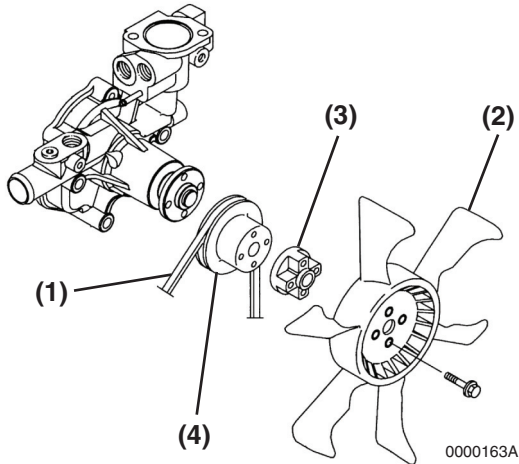

Figure 7-5
2. Remove the engine coolant fan guard (if equipped), engine coolant fan (**Figure 7-5, (2)**), spacer (**Figure 7-5, (3)**) if equipped, V-pulley (**Figure 7-5, (4)**) and cooling fan V-belt (**Figure 7-5, (1)**).